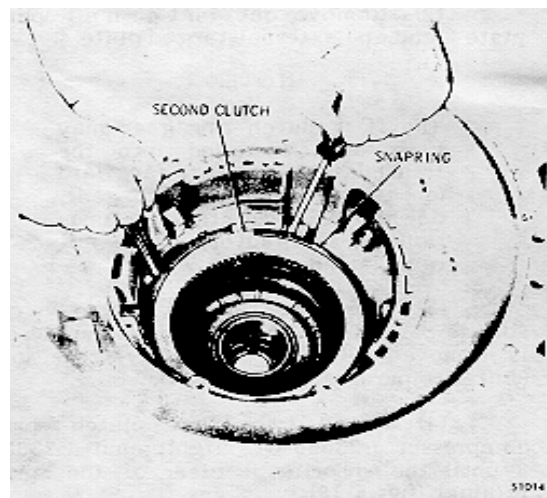

Fig. 5-17. Removing second clutch snapping
(1) Remove the snapping that retains the second clutch (fig. 5-17).
(2) Remove t h r e e external-tanged and three internal-splined, second clutch plates (fig. 5-17).